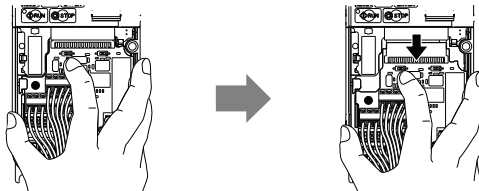

Figure 19 Remove the Terminal Board
4. While holding down the locking pin from step 3, slide the removable I/O terminal board in the direction of the arrow in Figure 19.